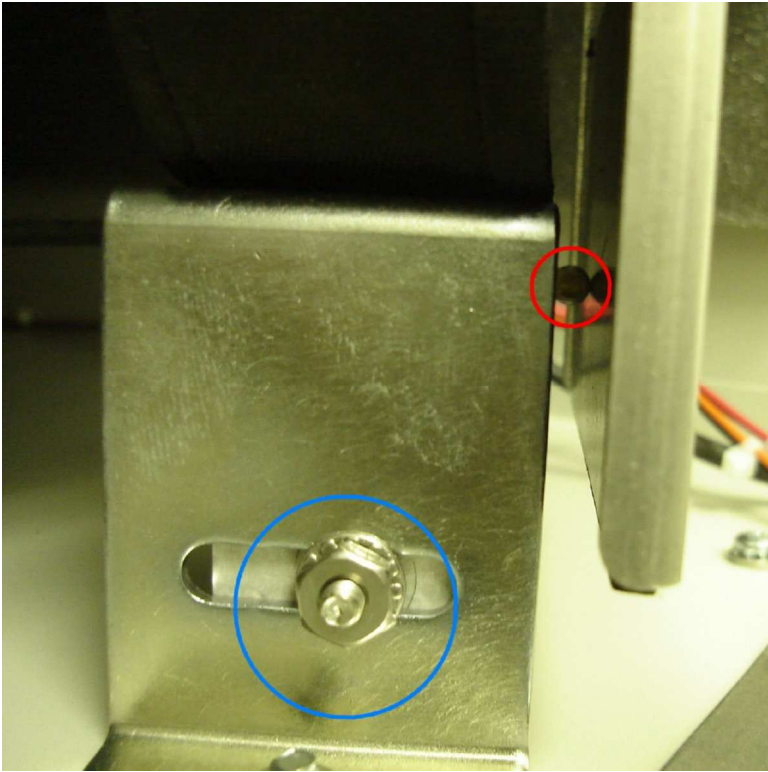

Figure G.1
2. The primary sensor is a snap action switch with a roller actuator (see red circle in Figure G.1). The normally closed contact is used and the switch contacts are opened by the roller actuator being pushed in by the imbalance plate.
7. Once the imbalance plate is at the correct angle the imbalance sensor assembly can be adjusted. This is done by loosening the assembly mounting nut (see blue circle in Figure G.1) and sliding the assembly. The roller actuator (see red circle in Figure G.1) should be set so that it is just touching the rubber pad attached to the back of the imbalance plate.